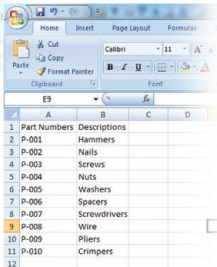

FIGURE 6 Enter data under Column B that relates to the data on the corresponding row of Column A.
- C.** Now enter the data for **Column B**, e.g., Descriptions, that relates to the data in corresponding rows of Column A (Fig. 6).